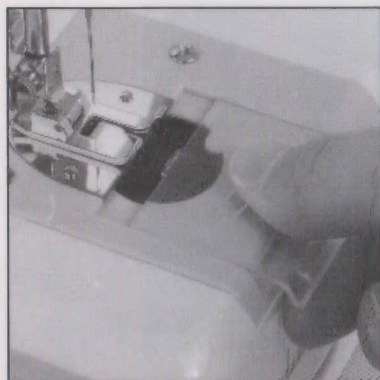

Fig.3
2. Slide the bobbin cover button to the right and remove the bobbin cover (Fig. 3).